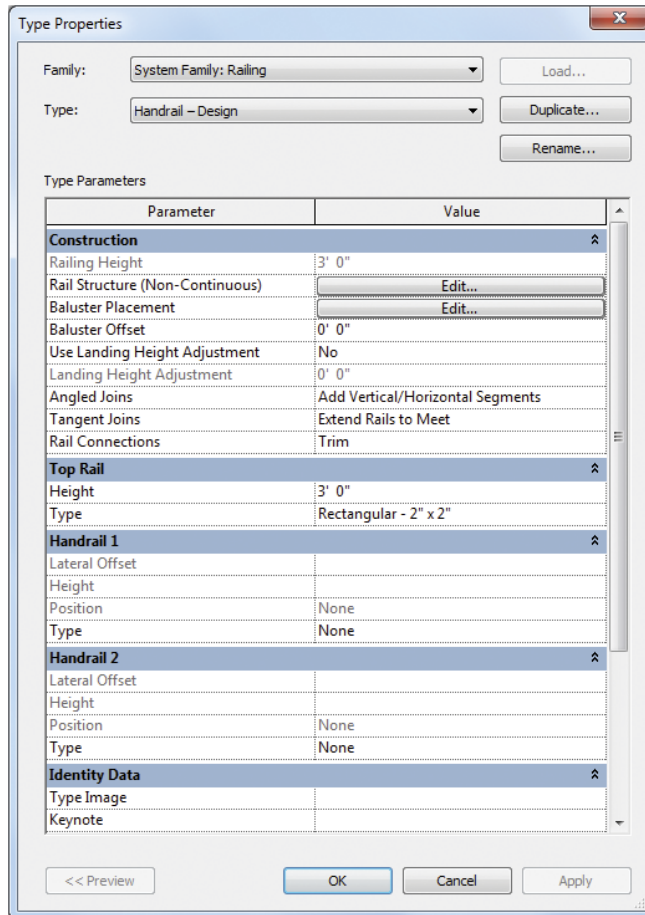

FIGURE 4.2 Railing type properties
5. Select the railing, and choose Edit Type from the Properties palette to open the Type Properties dialog, as shown in Figure 4.2.